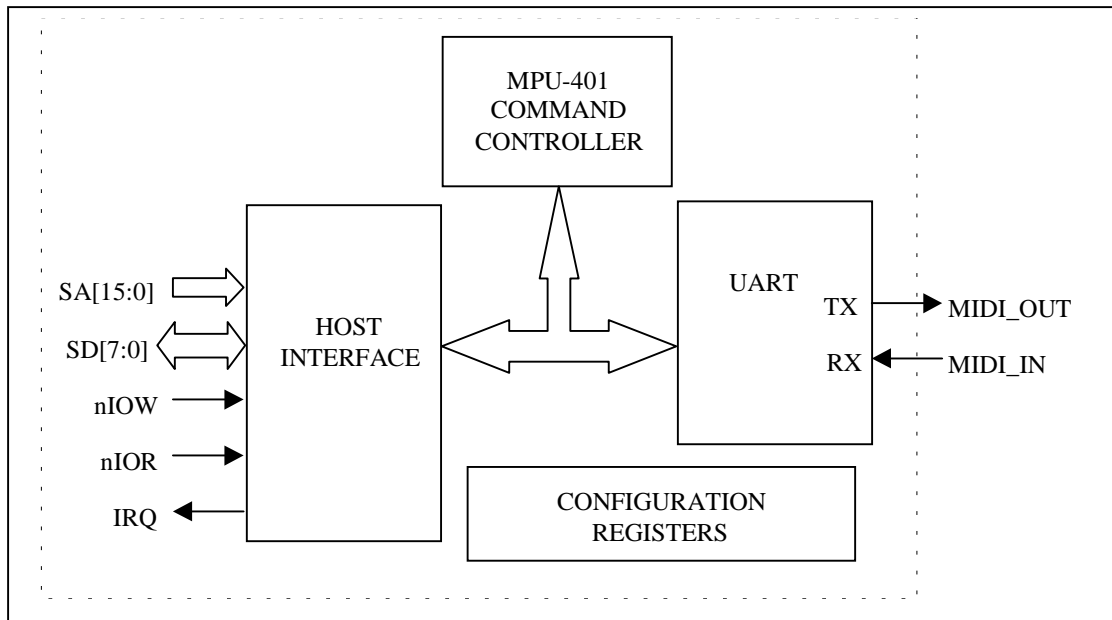

FIGURE 2 - MPU-401 MIDI INTERFACE
Serial Port 3 is used exclusively in the LPC47M13x as an MPU-401-compatible MIDI Interface. The LPC47M13x MPU-401 hardware includes a Host Interface, an MPU-401 command controller, configuration registers, and a compatible UART (Figure 2).
The Host Interface includes two contiguous 8-bit run-time registers (the Status/Command Port and the Data Port), and an interrupt. For illustration purposes, the Host Interface block shown in Figure 2 uses standard ISA signaling. Address decoding and interrupt selection for the Host Interface are determined by device configuration registers (see Section “MPU-401 Configuration Registers”).
- NOTE³ IRQ is the MPU-401 Host Interface IRQ shown in Figure 2. The UART Receive FIFO Threshold = 1.